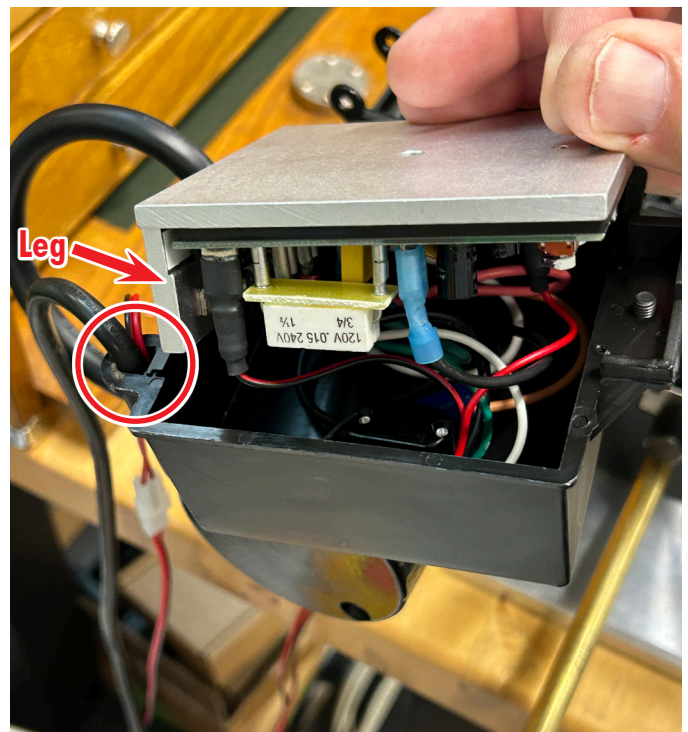

FIGURE 15
- L. With the two wires installed, flip the control board back over so the leg is towards the side of the housing that has all of the incoming wires on it. Then gently push the wires and the control board back into the housing (see Figure 15).